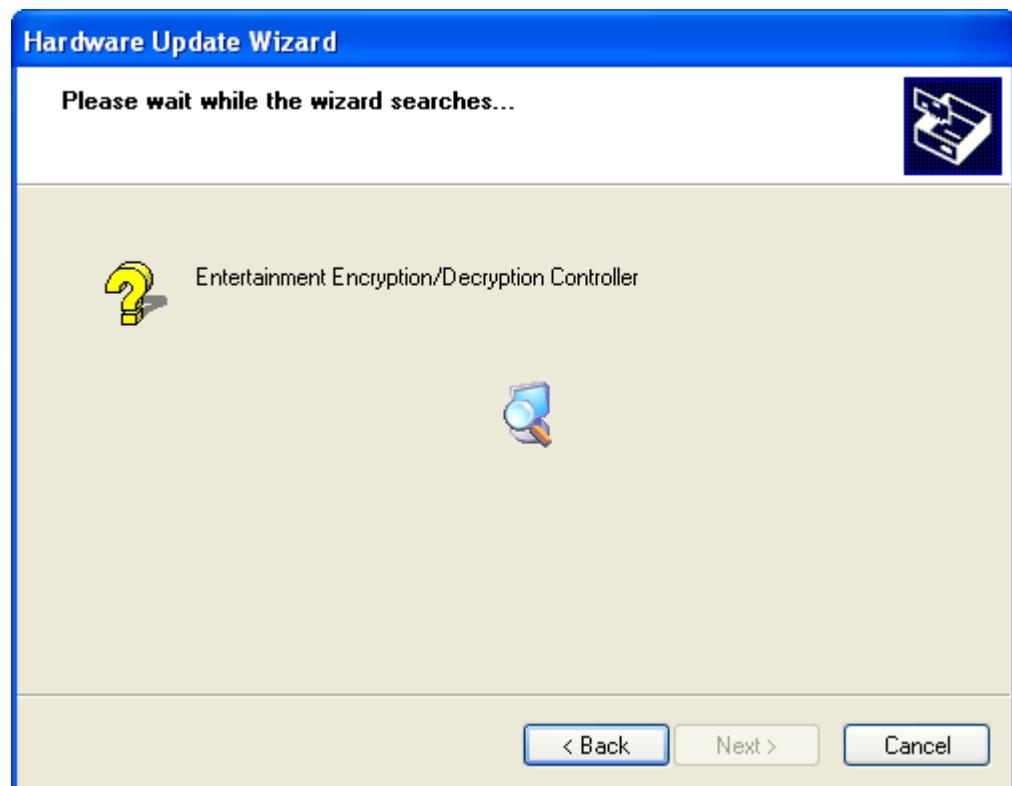

Figure 7-39: Entertainment Encryption/Decryption Controller Driver Installation
Step 70: The Wizard updates the driver. See **Figure 7-39**.